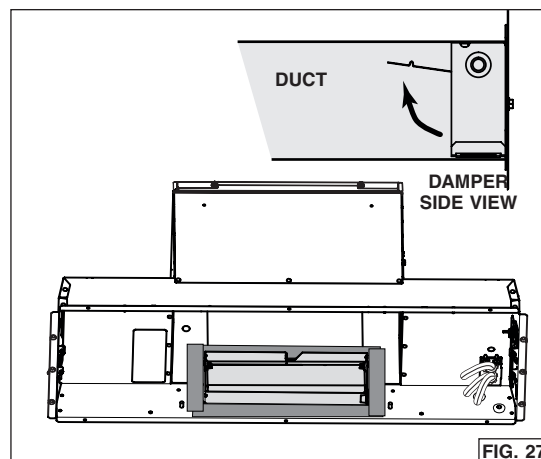

FIG. 27
- From inside the unit, slide the 3¼" x 10" adapter/damper in the horizontal duct, then attach it to the unit using aluminum duct tape all around the joint (FIG. 27). Ensure the damper opens as shown in damper side view.